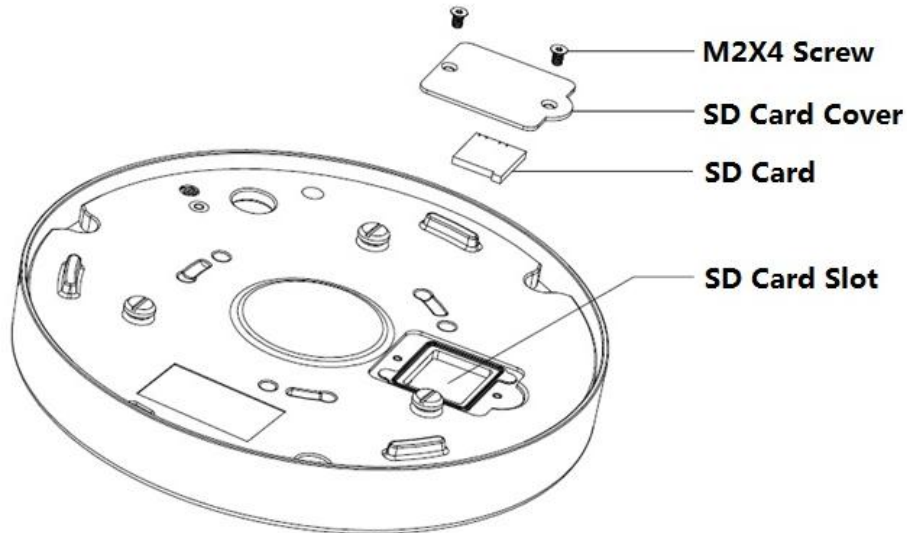

Figure 2-3
- 1) Find Micro SD card slot in the location shown in Figure 2-3, use cross screwdriver to take down two screws on the cover of Micro SD card.